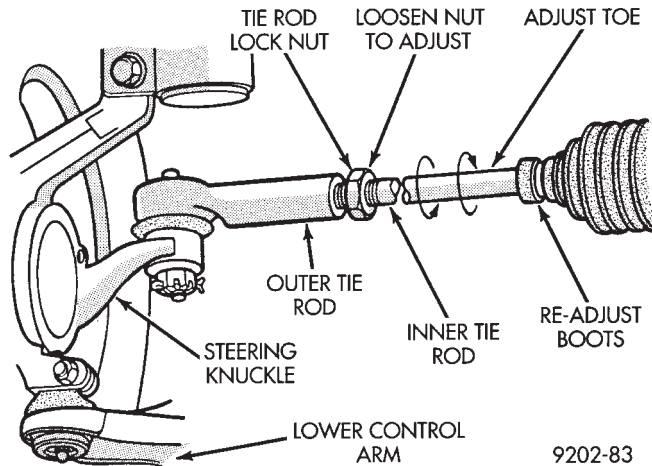

Fig. 2 Front Wheel Toe Adjustment
- (1) Prepare vehicle as described in Pre-Alignment.
- (2) Center steering wheel and hold with steering wheel clamp.
- (3) Loosen tie rod locknuts (Fig. 2). Rotate inner tie rods to align front wheel toe to specifications.